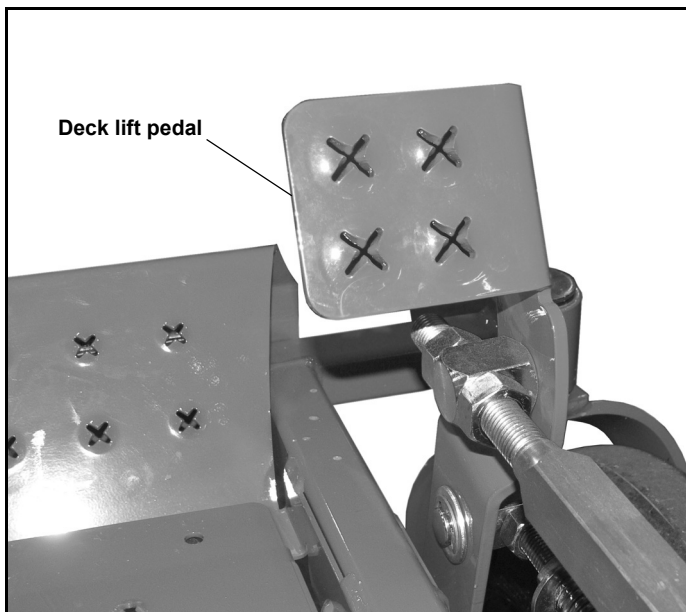

Figure 3-4
- B. **Deck lift pedal (Figure 3-4)** — the deck lift pedal is used to raise or lower the deck. Push on the pedal to raise the deck and then place the deck height locking pin into the desired cutting height hole.